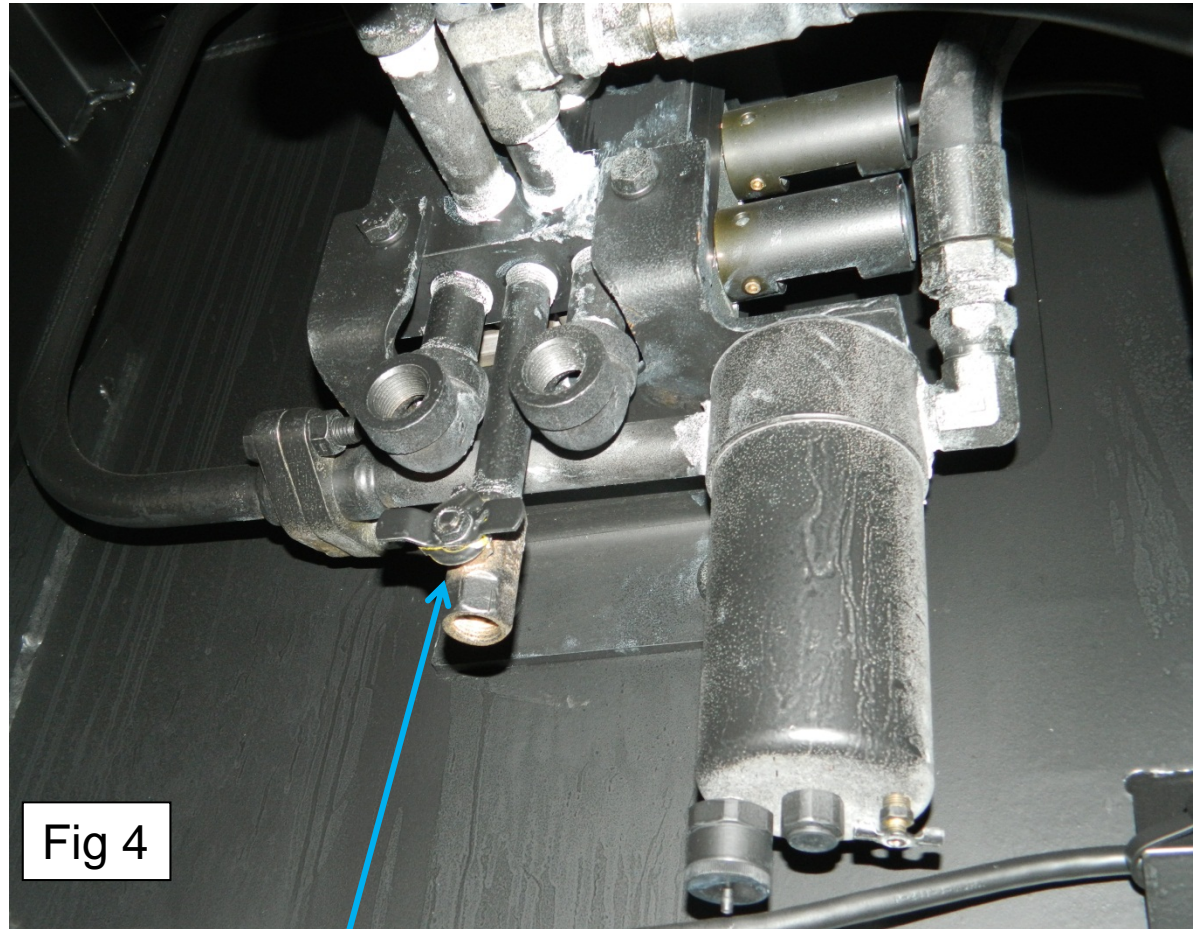

Fig 4
7. Do not make any inspections, repairs, alterations, replacement, or adjustments to any part of the door system without first fully releasing all air pressure in the door system. To release all air pressure from the door system, disconnect the train line and wayside air supplies, and then slowly open the door valve manifold drain which is located at the A end of the car at the bottom of the door valve assembly. (Fig 4)
6- Filter assembly equipped with an automatic drain valve used to remove moisture from the bottom of the canister, fig 4 page 11 .
2. **Open** – Drain Valve Located at the Bottom of the Door Control Valve to remove all air from the door system shown in Fig 4.